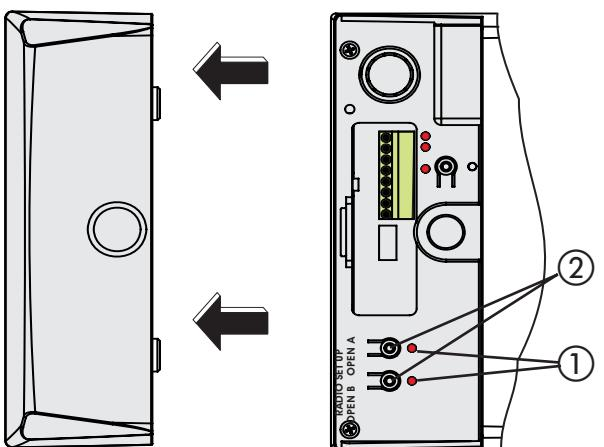

Fig. 31
- 4) To respectively memory store total or partial opening, press the OPEN A or OPEN B push-button for one second (Fig. 31 ref. ②).
- 2) To respectively memory store total or partial opening, press the OPEN A or OPEN B push-button for one second (Fig. 31 ref. ②)
- 3) The relevant LED (Fig. 31 ref ①), begins to flash for 5 sec.
- 2) To respectively memory store total or partial opening, press the OPEN A or OPEN B push-button for one second (Fig. 31 ref. ②).